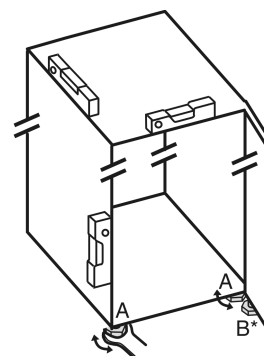

Fig. 24
- ▶ Unscrew the adjustable feet Fig. 24 (A) using the enclosed open-end spanner and a spirit level until the appliance is firmly aligned and level.
- Unscrew the adjustable foot *Fig. 24 (B)* on the swap bearing block with the enclosed open-end spanner until it rests on the floor.
- Turn the adjustable foot *Fig. 24 (B)* 90° further.